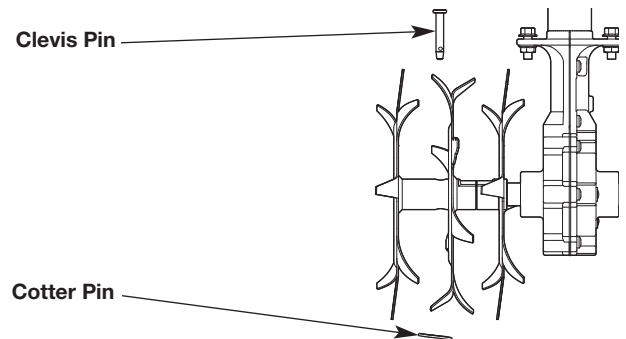

Fig. 11
- Remove the cotter pin from the clevis pin (Fig. 11). Remove the clevis pin from the double tine and tine shaft.
3. Insert a clevis pin through the aligned holes (Fig. 11). Insert a cotter pin into the clevis pin.